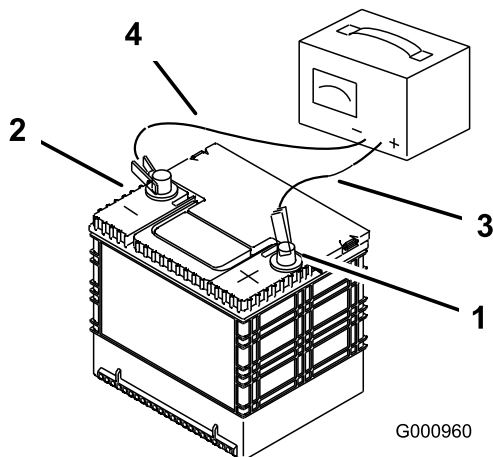

Figure 64
2. When the battery is fully charged, unplug the charger from the power outlet, then disconnect the charger leads from the battery posts (Figure 64).